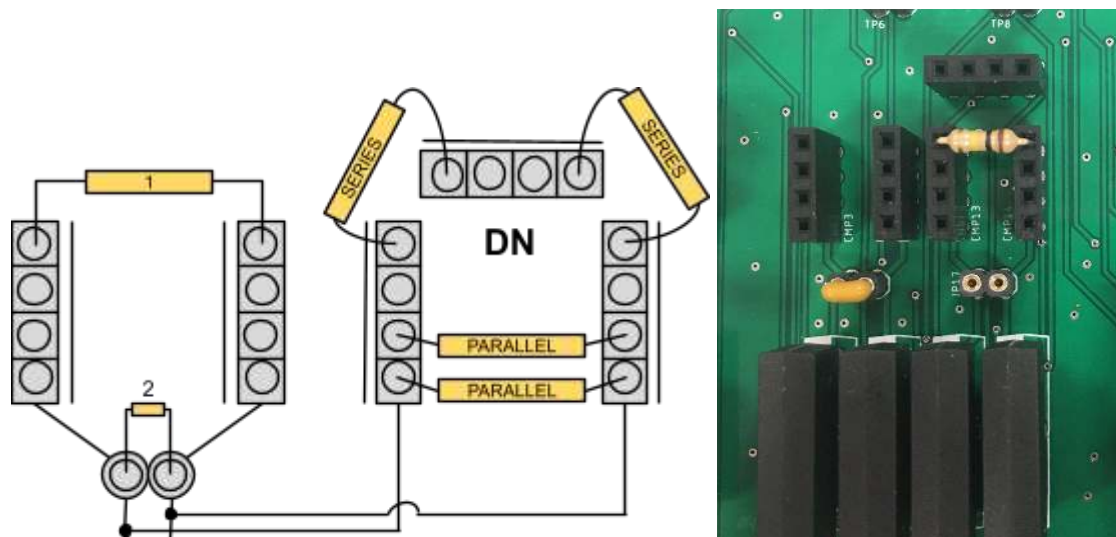

Figure 3.10: Connections in the 5 components board with discharge network.
2. Connect each leg into the smaller sockets located at the bottom (See Figure 3.10).